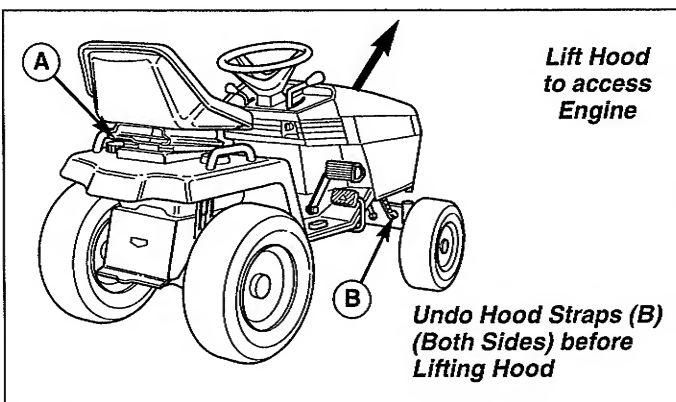

Figure 5. Engine Access
- Check that the crankcase is filled with oil to full mark on dipstick. See the engine Operator's Manual for instructions and oil recommendations. See Figure 5 for hood access.